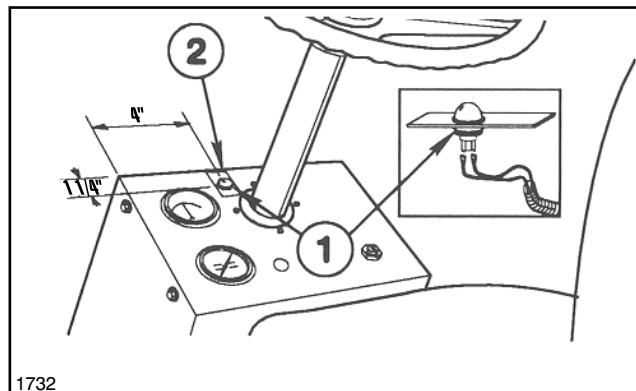

FIG. 3
4. Mount Fuse Block to Cover using two (2) #10 NC x 5/8" rec. rd. hd. mach. screws and hex nuts.
6. Route Wiring Harness through floor and back through axle mounting bracket. Route the harness section with three (3) clear 6-way connectors back along left side of Vehicle to behind engine. Then guide up, into the Seat Box.
7. Install Sonic Boom™ Decal and Indicator Light on Dash (11/16" DIA. hole required.) Connect Harness Leads to Light. Reinstall the Console Cover. See FIG. 3.